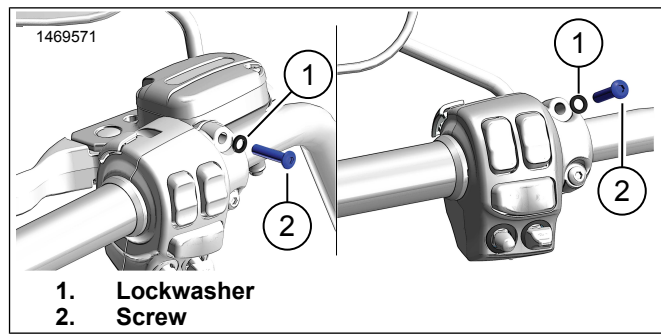

Figure 2. Upper Left Side Clutch/Mirror Mount Screw and Washer
1. Figure 2 Remove upper screw (2) and washer (1) from left side clutch mount. Discard.
2. **Livewire Models:** Figure 2 Remove upper screw (2) and washer (1) from left side mirror mount. Discard.